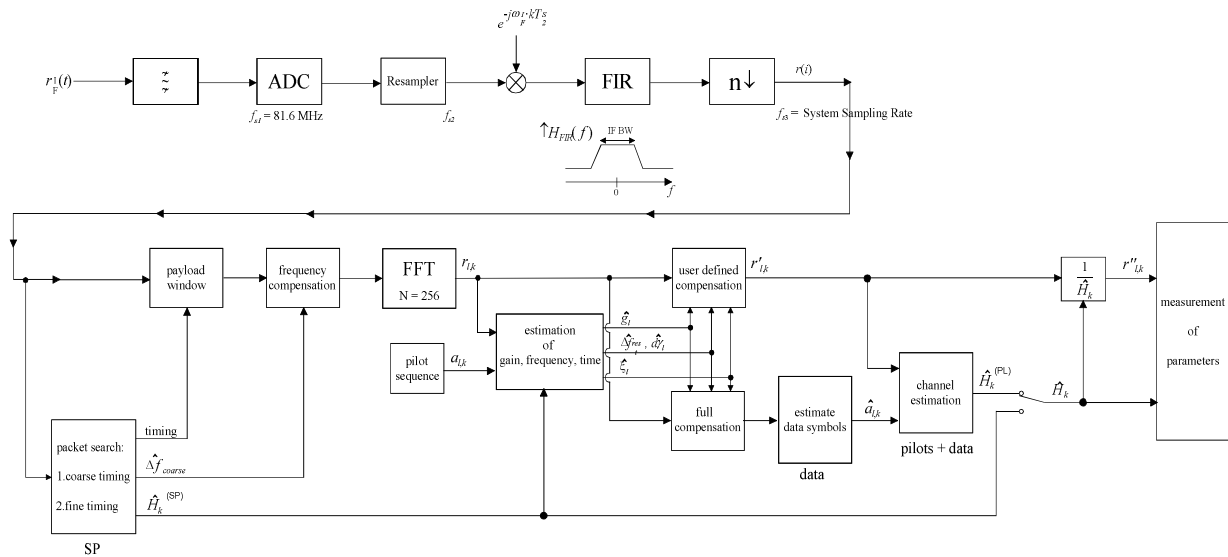

Fig. 2-85 Signal processing of the IEEE 802.16 OFDM measurement application
A diagram of the interesting blocks is shown in Fig. 2-85. First the RF signal is down-converted to the IF frequency $f_{IF} = 20.4$ MHz. The resulting IF signal $r_{IF}(t)$ is shown on the left-hand side of the figure. After bandpass filtering, the signal is sampled by an Analog to Digital Converter (ADC) at a sampling rate of $f_{s1} = 81.6$ MHz. This digital sequence is resampled to the new sampling frequency of $f_{s2} = 80$ MHz which is a multiple of the Nyquist rate (20 MHz). The subsequent digital down-converter shifts the IF signal to the complex base band. In the next step the base band signal is filtered by a FIR filter. To get an idea, the rough transfer function is plotted in the figure. This filter fulfils two tasks: first it suppresses the IF image frequency, secondly it attenuates the aliasing frequency bands caused by the subsequent down-sampling. After filtering, the sequence is sampled down by the factor of 4. Thus the sampling rate of the down-sampled sequence $r(i)$ is the Nyquist rate of $f_{s3} = 20$ MHz. Up to this point the digital part is implemented in an ASIC.
In general, the coarse frequency estimate $\hat{\Delta f}_{\text{coarse}}$ (see Fig. 2-85) is not error-free. Therefore the remaining frequency error Δf_{rest} represents the not yet compensated frequency deviation in $r_{l,k}$. Consequently the overall frequency deviation of the device under test (DUT) is calculated by $\Delta f = \hat{\Delta f}_{\text{coarse}} + \Delta f_{\text{rest}}$. Remark: The only motivation for dividing the common phase drift in equation (11) into two parts is to be able to calculate the overall frequency deviation of the DUT.